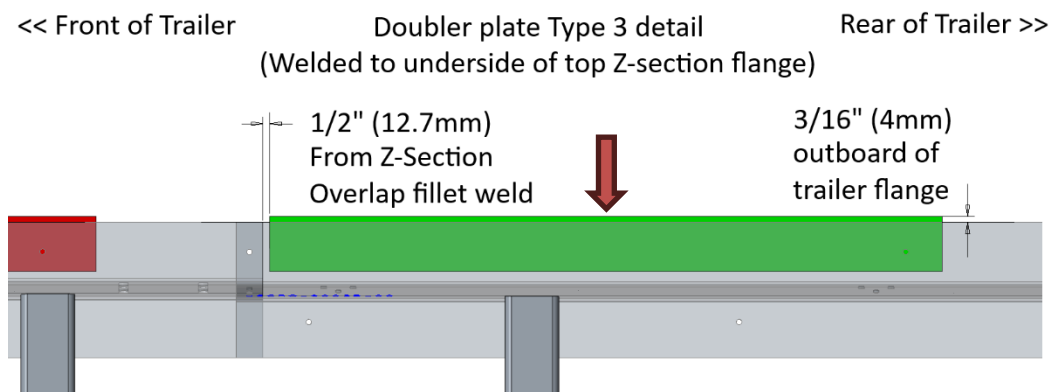

Figure 6: Location of Type 3 Doubler plate
2. Figure 6 shows the location of the Doubler plate for the curb side of the chassis only, located underneath the bottom flange of the Z-section.